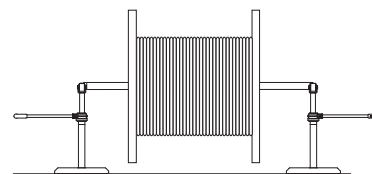

Figure 4
6. Turn the other reel stand handle until the spindle is level and the cable reel rotates freely. (Fig. 4)